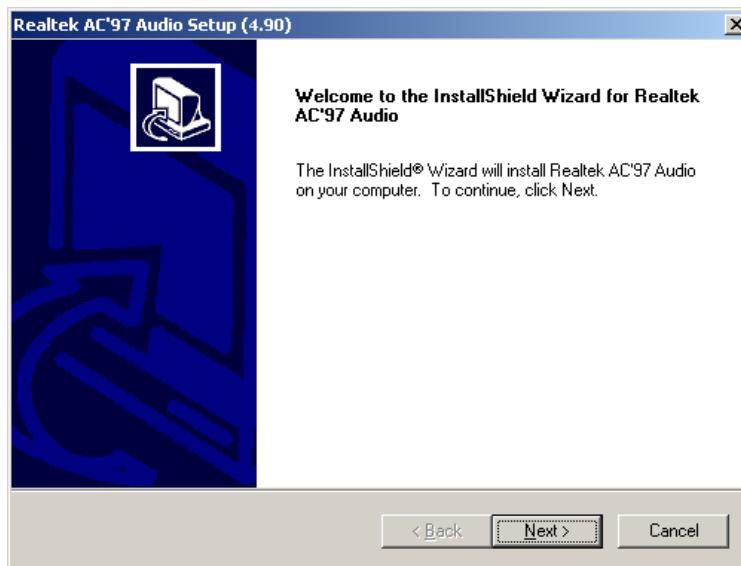

Figure 7-22: InstallShield Wizard Welcome Screen
Step 6: Once initialized, the **InstallShield Wizard** welcome screen appears (Figure 7-22).